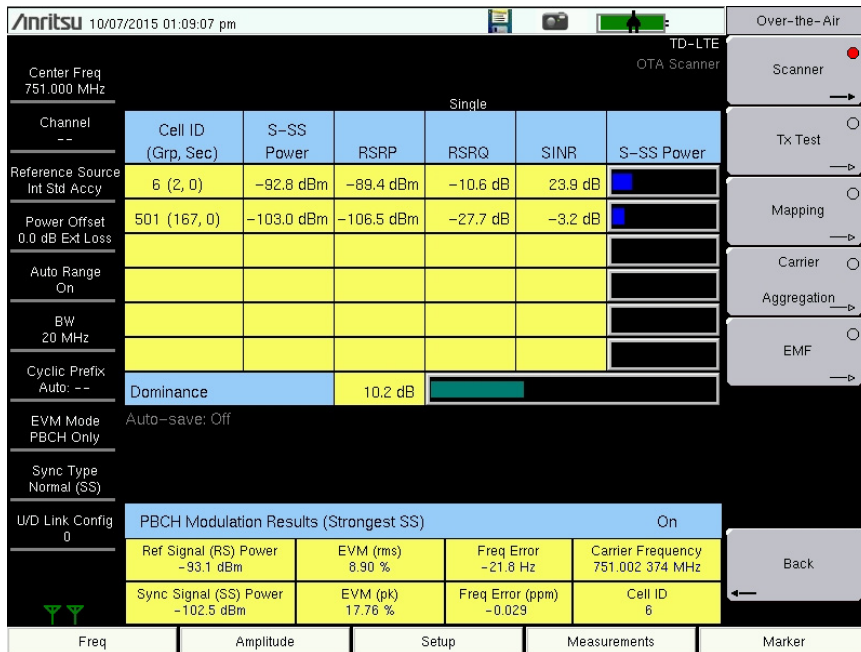

Figure 6-12. Over-the-Air Measurements
3. Press the **Scanner** submenu key to activate the OTA Scanner display (Figure 6-12 on page 6-20). Press the **Scanner** key again to display the OTA Scanner menu.